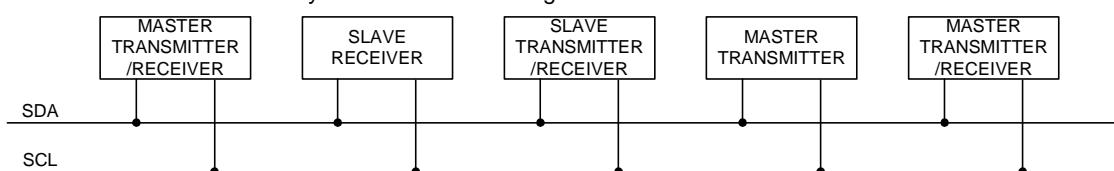

Figure 7 System configuration
The SH1107 supports both read and write access. The  $R/\bar{W}$  bit is part of the slave address. Before any data is transmitted on the I2C-bus, the device that should respond is addressed first. Two 7-bit slave addresses (0111100 and 0111101) are reserved for the SH1107. The least significant bit of the slave address is set by connecting the input SA0 to either logic 0(VSS) or 1(VDD). The I2C-bus protocol is illustrated in Fig.7. The sequence is initiated with a START condition (S) from the I2C-bus master that is followed by the slave address. All slaves with the corresponding address acknowledge in parallel, all the others will ignore the I2C-bus transfer. After acknowledgement, one or more command words follow which define the status of the addressed slaves. A command word consists of a control byte, which defines Co and D/C (note1), plus a data byte (see Fig.9). The last control byte is tagged with a cleared most significant bit, the continuation bit Co. After a control byte with a cleared Co-bit, only data bytes will follow. The state of the D/C-bit defines whether the data-byte is interpreted as a command or as RAM-data. The control and data bytes are also acknowledged by all addressed slaves on the bus. After the last control byte, depending on the D/C-bit setting, either a series of display data bytes or command data bytes may follow. If the D/C-bit was set to '1', these display bytes are stored in the display RAM at the address specified by the data pointer. The data pointer is automatically updated and the data is directed to the intended SH1107 device. If the D/C-bit of the last control byte was set to '0', these command bytes will be decoded and the setting of the device will be changed according to the received commands. The acknowledgement after each byte is made only by the addressed slave. At the end of the transmission the I2C-bus master issues a stop condition (P). If the  $R/\bar{W}$  bit is set to one in the slave-address, the chip will output data immediately after the slave-address according to the D/C-bit, which was sent during the last write access. If no acknowledge is generated by the master after a byte, the driver stops transferring data to the master.